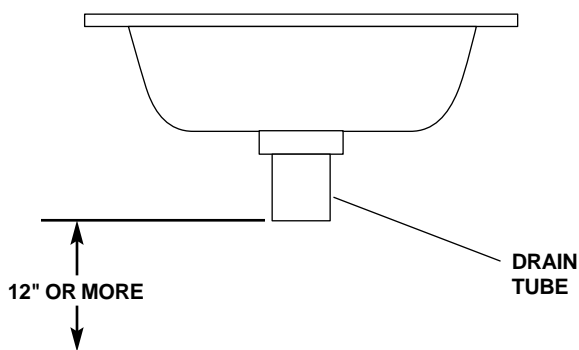

FIGURE 30
1. The vacuum wash station drain requires a minimum of 12" (304.8 mm) of vertical space below the end of the drain tube (see Figure 30).